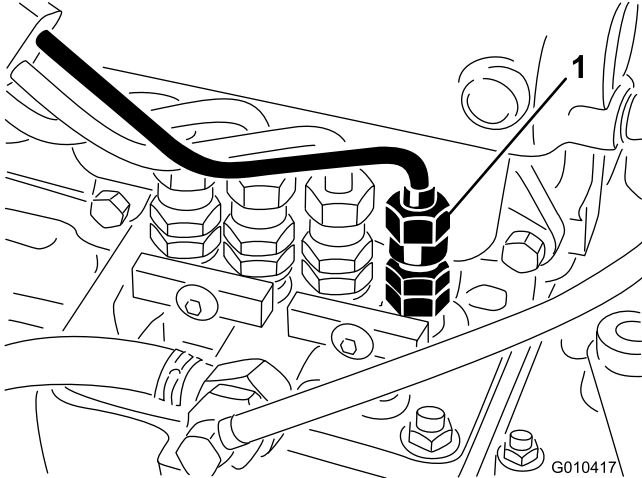

Figure 60
1. Loosen the pipe connection to the No. 1 injector nozzle and holder assembly at the injection pump (Figure 60).